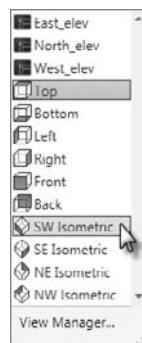

FIGURE 16.6 Select the Southwest Isometric view from the 3D Navigation drop-down list.
9. In the View panel under the Home tab, expand the 3D Navigation drop-down list and choose Southwest Isometric, as shown in Figure 16.6. The name of the view may be clipped by the border of the drop-down list.